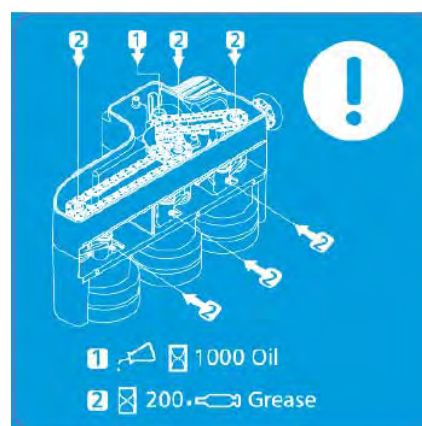

Fig. 52: Information on oil change and lubrication
Step 2: Turn the feed unit upwards again and fill in the oil (200 ml, or as indicated on the maintenance label; Example - Fig. 52). Then put on the oil cap.